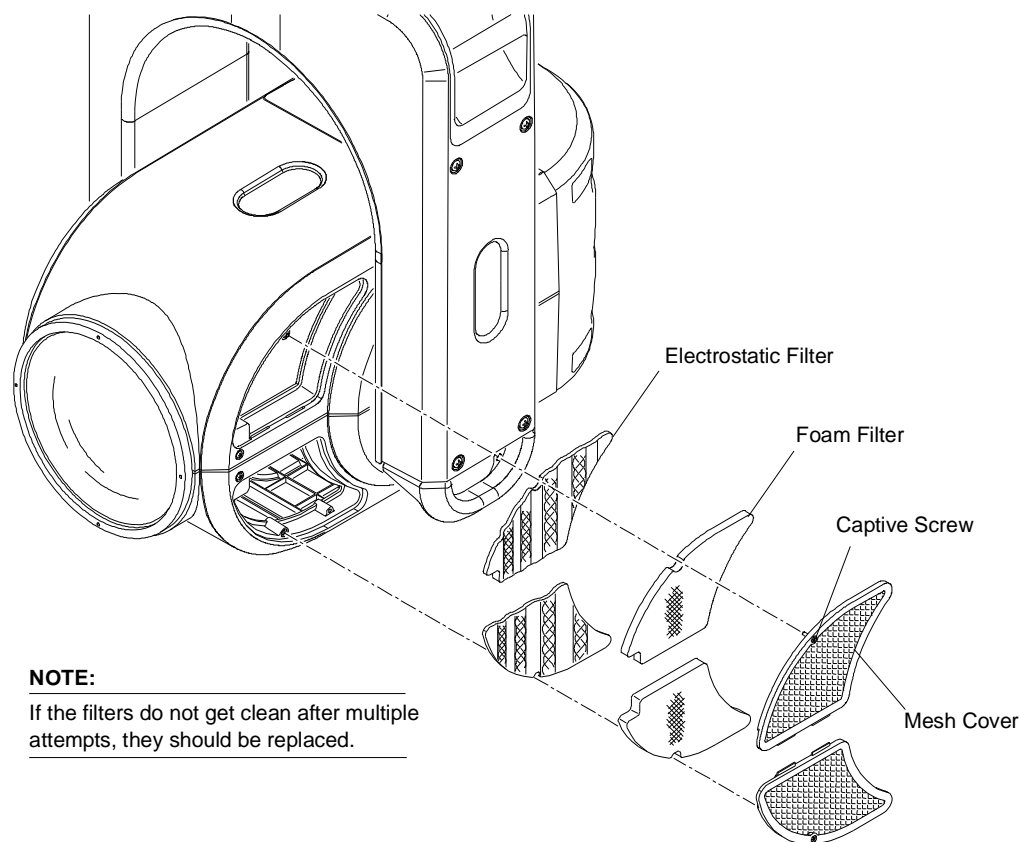

Figure 4-4: Removing Head Filters
- Step 2. At each mesh cover, loosen one captive screw (**Figure 4-4**).